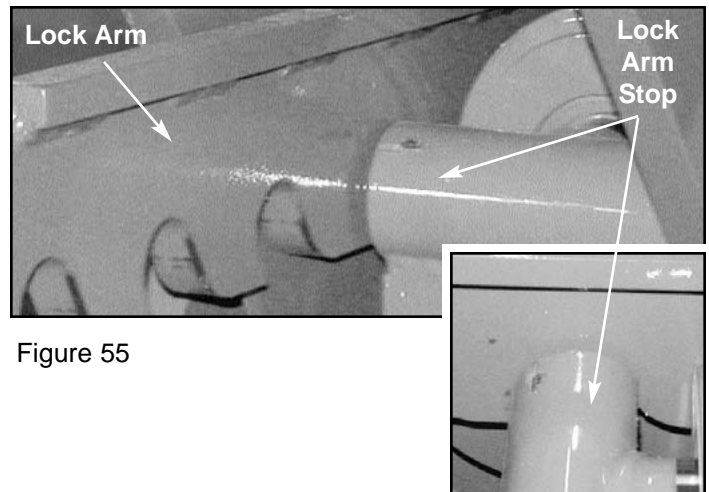

Figure 55
4. Prior to reaching desired working height, release “unlock” button to allow front and rear lock arms to engage the appropriate lock arm stops. Figure 55 and its inset show lock arm fully engaged with lock arm stop.